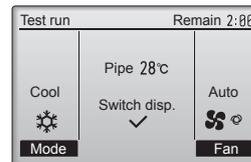

Fig. 7-5
- (1) Press the button to go through the operation modes in the order of "Cool" and "Heat". (Fig. 7-5)